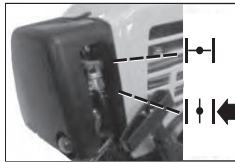

Fig. 10B
- Move choke lever to RUN "I+I" position. Engine will be started when pull starter rope 2 times. (Fig. 10B) Continually warm 10seconds after engine started, and then engine will reach high speed.